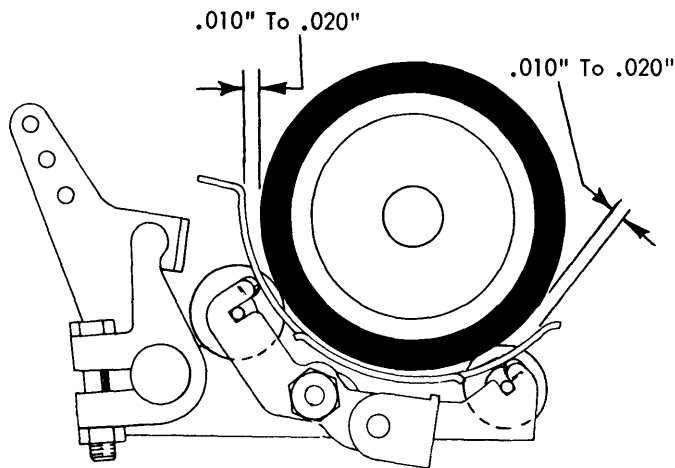

FIGURE 184. Deflector Adjustment
8. **Deflector** - Position the deflector by forming the deflector supporting tabs on the front and rear feed roll arms so that a clearance of .010" to .020" exist between the front and rear of the deflector and the platen (Fig. 184). Three tab cards inserted between the platen and the deflector (at the front and rear) should provide a slight drag. No drag should be felt when one tab card is inserted.